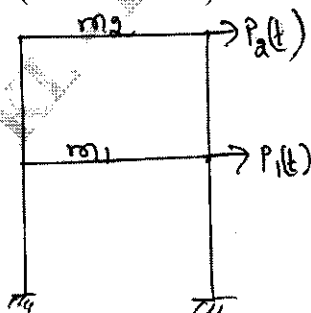

Fig.Q8
- 8 Compute the response due to harmonic loading for the shear building shown in Fig.Q8.